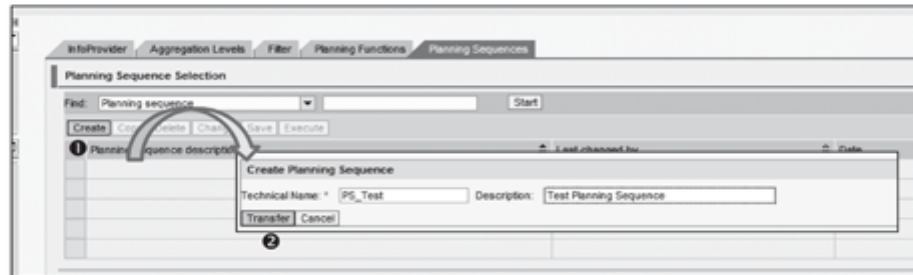

Figure 12.66 Create New Planning Sequence
1. Go to the Planning Sequences tab page, and click on CREATE (❶ of Figure 12.66). Enter the TECHNICAL NAME AND DESCRIPTION of the planning sequence, and click on TRANSFER (❷).